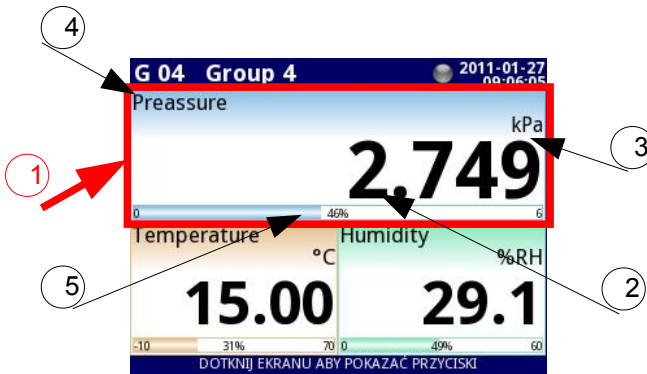

Fig. 6.5. View of the **Data panel**
In all data panels (a sample of a data panel is shown inside the frame marked **(1)** in **Fig. 6.5**) the following information is available:
- value of the logical channel (denoted by **(2)** in **Fig. 6.5**),